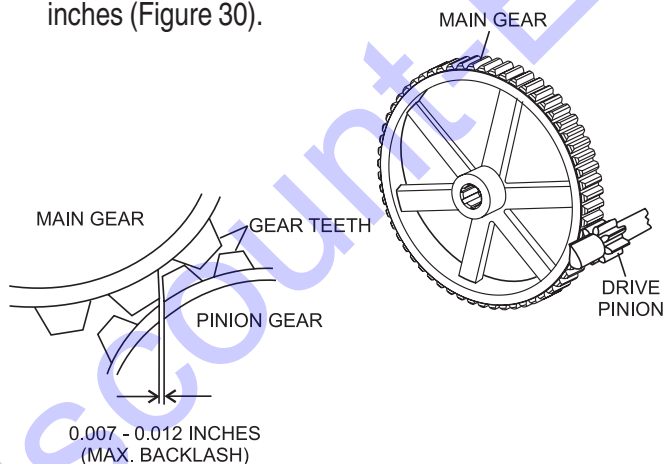

Figure 30. Drive Pinion and Main Gear (Backlash)
3. Using your hand, slightly move (rock) the drive pulley back and forth to determine the amount of backlash. Insert feeler gauge between gears to determine backlash distance. Backlash should range between 0.007- 0.012 inches (Figure 30).